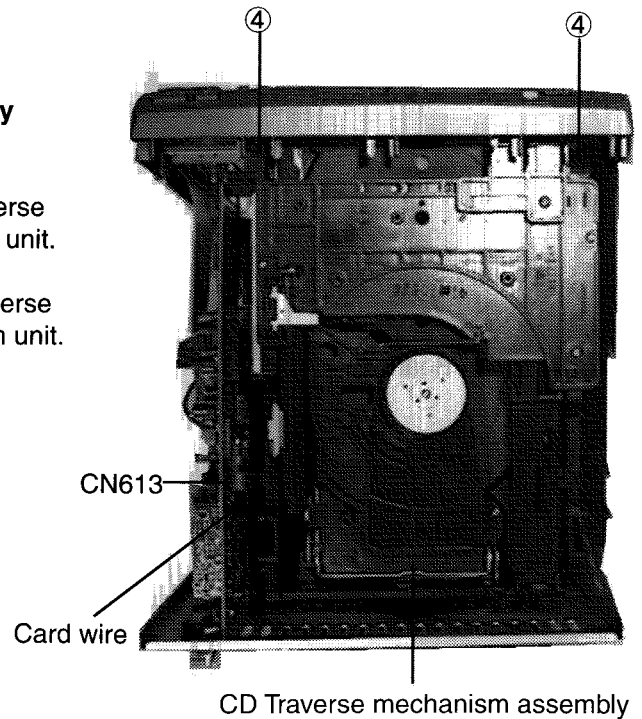

Fig. 3
3. Remove the two screws ④ fastening the CD traverse mechanism assembly to the side panel of the main unit. (See Fig.3,4)
9. Tilt the front panel assembly slightly forward and remove the CD traverse mechanism assembly by shifting and lifting upward.(See Fig.3)